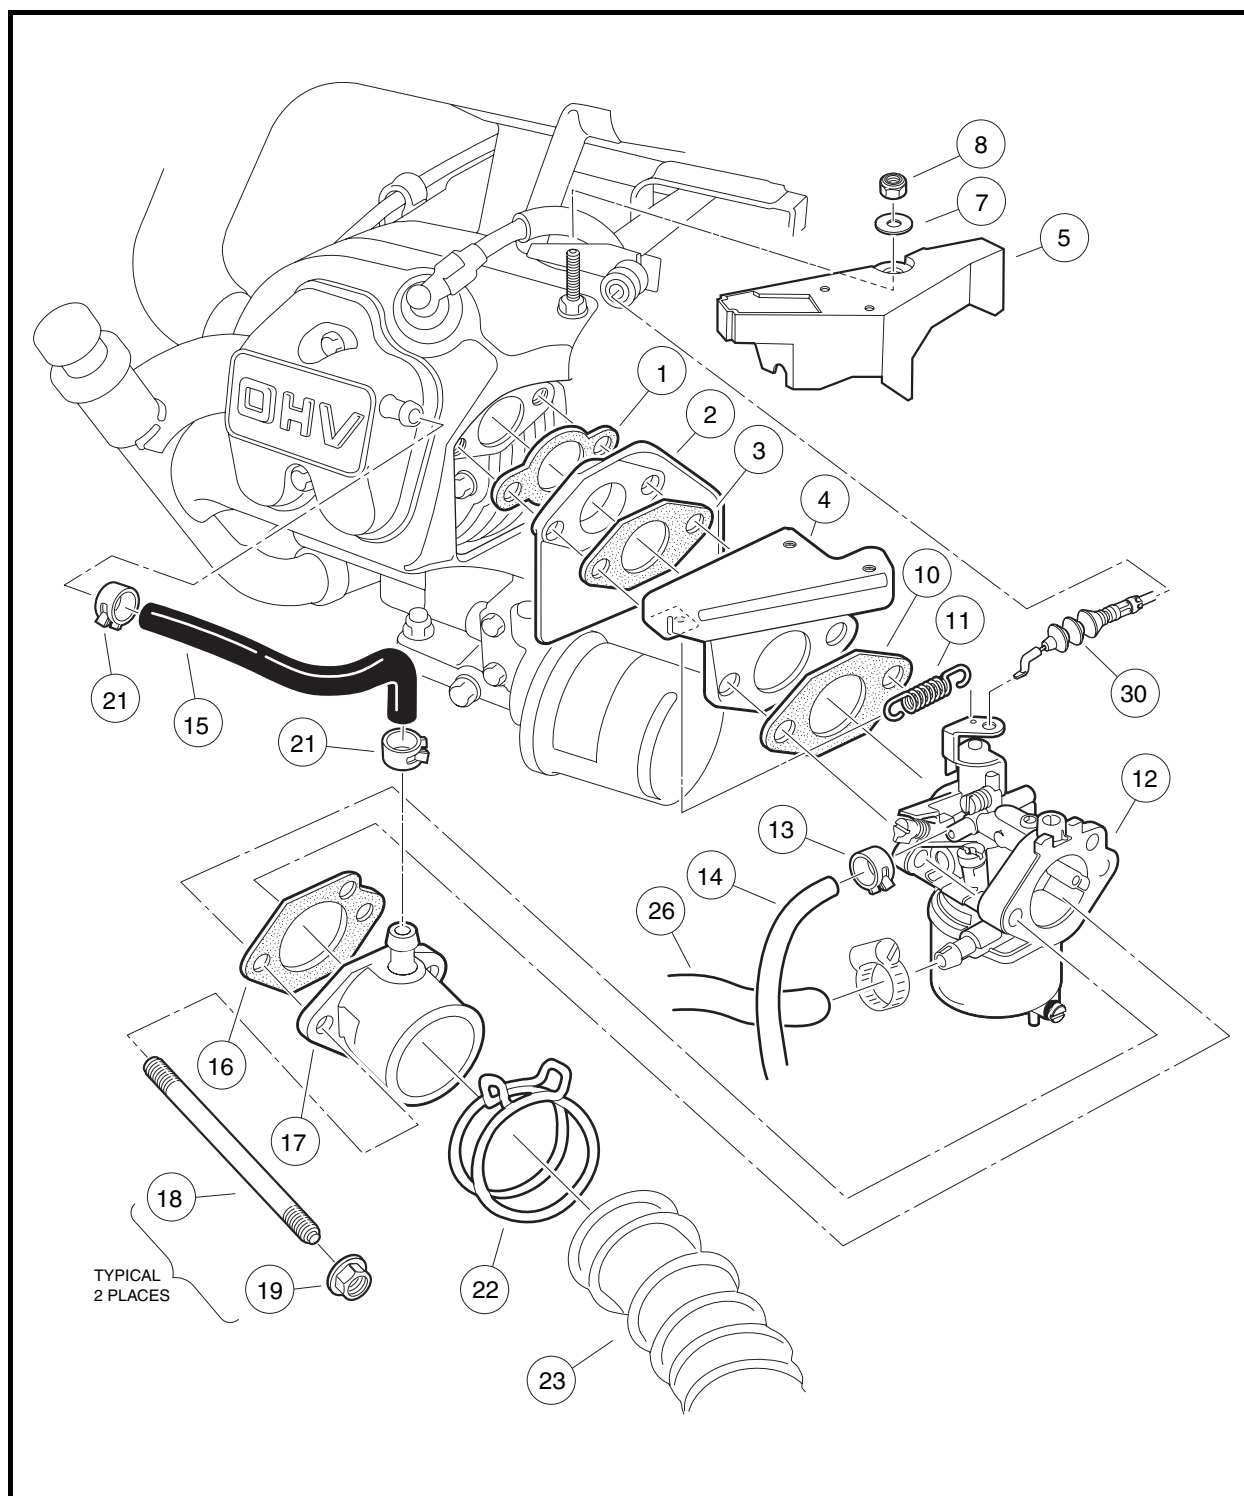

Figure 14-1 Carburetor Installation
- 1.2. Loosen the intake air hose clamp (22) and disconnect the intake air hose (23) at the carburetor end only (**Figure 14-1, Page 14-3**).
- 1.7. Remove the carburetor retaining nuts (19), intake pipe (17), and carburetor (12). **See following NOTE.**
NOTE: Note the orientation of the gasket (16), between the carburetor intake pipe (17) and the carburetor body (12) so that it can be replaced in the same orientation (**Figure 14-1, Page 14-3**).
12. Install the carburetor on the engine (**Figure 14-1, Page 14-3**).
- 12.1. Attach the throttle return spring (11) to the carburetor and then to the throttle bracket (4) just before positioning the carburetor and securing it to the engine (**Figure 14-1, Page 14-3**).
- 12.3. Install the carburetor retaining nuts (19) and tighten them to 50 in-lb (5.7 N·m).
13. Connect fuel supply line (26) and tighten screw clamp to 9 in-lb (1.0 N·m) (if equipped) (**Figure 14-1, Page 14-3**).
14. Install carburetor vent line (14) and clamp (13).
15. Install the governor cable (30).
16. Install the governor guard (5), flat washer and nylon lock nut. Tighten to 30 in-lb (3.4 N·m).
17. Install the intake hose (23) and secure with hose clamp.
3. Remove the governor guard (5) (**Figure 14-1, Page 14-3**).